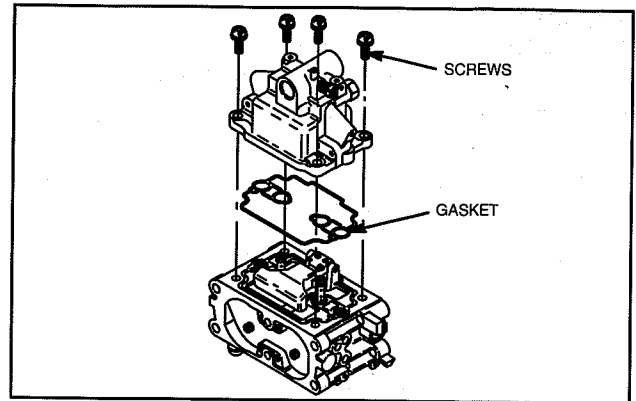

Fig. 44 – Remove Lower Body
4. Remove carburetor lower body screws and lift lower body straight away from upper body, Fig. 44.